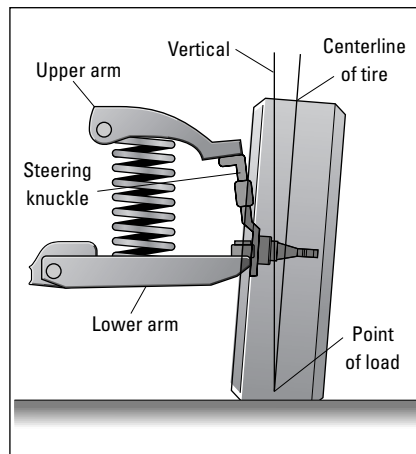

Figure 17-6: Camber.
- ✔ **Camber:** The inward or outward tilt of the top of the wheels when viewed from the front/rear of the vehicle — in other words, how “bow-legged” or “knock-kneed” they are (see Figure 17-6). If the wheels don't hang properly, your tires wear out more quickly, and your car is harder to handle.